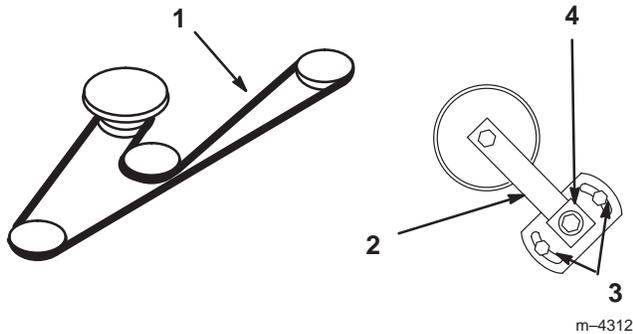

Figure 57
- Loosen the two nuts securing the idler plate and move the idler arm to relieve the belt tension on the idler pulley; then remove the worn deck belt (Fig. 57).
4. Install the new deck belt around the spindle pulleys, belt guide, the idler pulley, and in the lower groove of the center spindle pulley (Fig. 57).